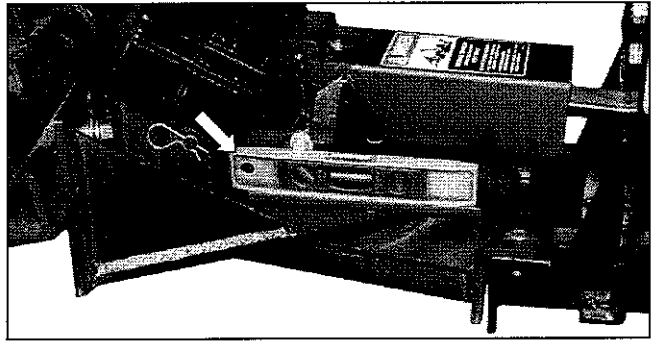

figure 17
3. Level the drive assembly using a level (figure 17).